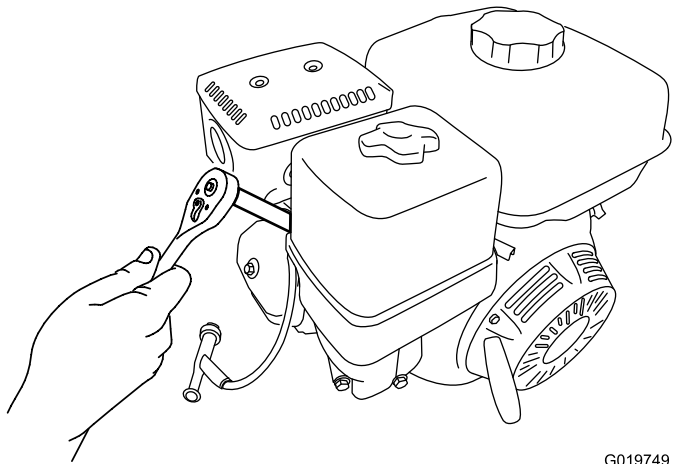

Figure 37
4. Rotate the spark plug counterclockwise using a 13/16 inch (21 mm) spark-plug wrench to remove the plug and the sealing washer (Figure 37).
2. Rotate spark plug clockwise using a 13/16 inch (21 mm) spark-plug wrench until the plug and sealing washer are seated (Figure 37).